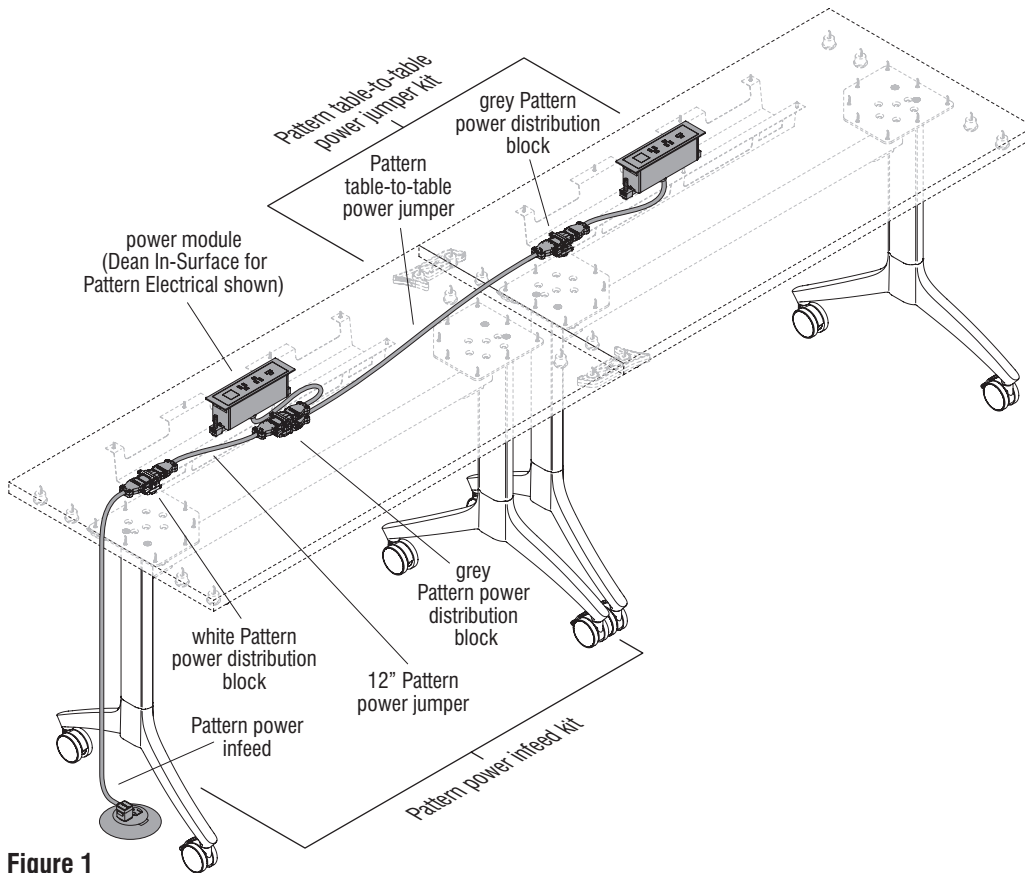

Figure 1
1. Place tables at their final location and lock the two front, user side casters in place on each table (Figure 1).